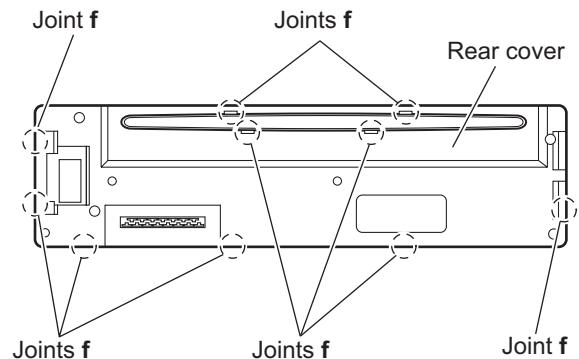

Fig.9
- Release the ten joints **f** and remove the rear cover. (See Fig.9)